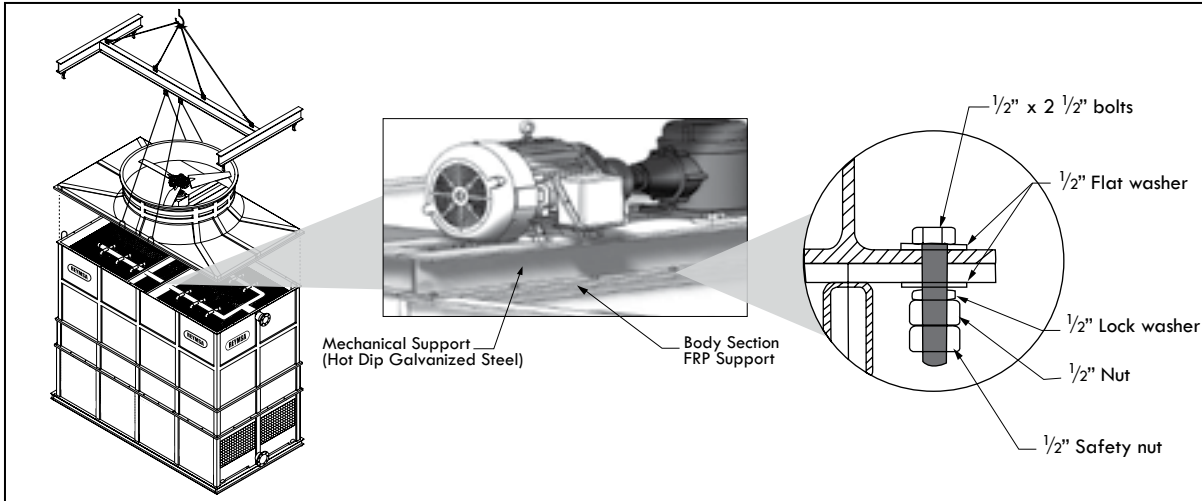
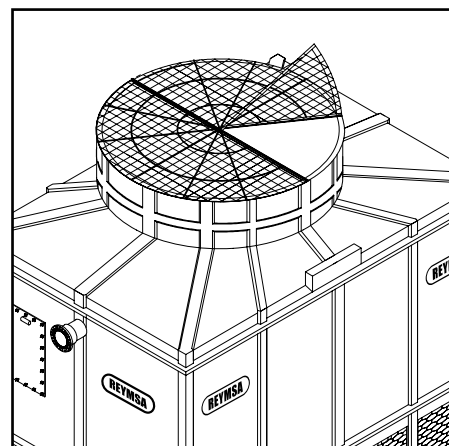

Figure A-89: Fan Deck assembly for an RTGM or RTGMTC model.
Figure A-92: Fan guard access door for RTGM and RTGMTC models.
- Q.** RTGM and RTGMTC models have a section called “Fan Deck” which is at the top of the Tower (see Figure A-89). The Fan Deck with duct contains a gear drive fan and a motor mounted on a structural Hot Dip Galvanized Steel support with an “I” shape configuration, and a corrosion resistant safety screen mesh.
- S.** After installing the fan deck section, access to inside of the fan deck section and bolt down the Galvanized Steel mechanical support to the Fiberglass (FRP) support (see Figure A-89). The Galvanized Steel mechanical support is built in an “I” shaped configuration and this mechanical support must be bolted to the Fiberglass (FRP) support in the upper section on which it sets. The bolts must be installed on the full perimeter of the “I” shaped mechanical support. Access to perform this assembly inside to tower is through the fan guard access door (see Figure A-92).
- Z. The 10 and 12 wide RTGM and 10, 12 and 14 wide RTGMTC models have an access door on the fan guard to access the inside of the fan deck (see Figure A-92).